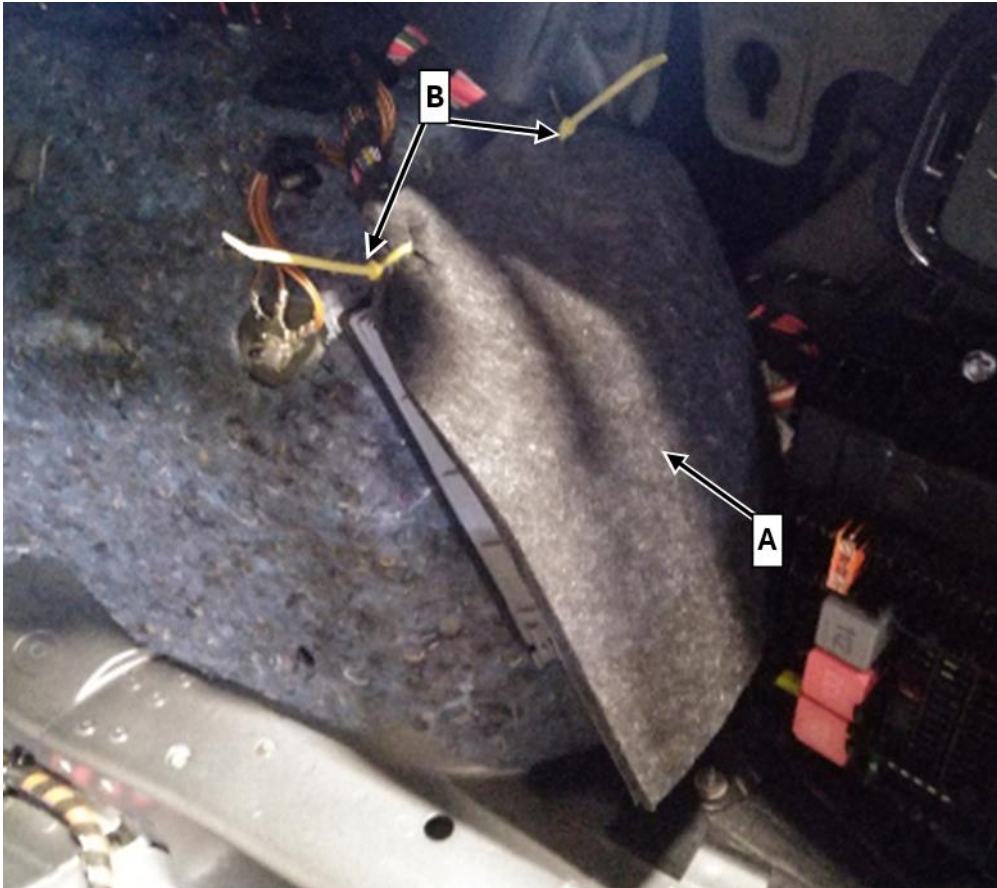

Figure 1
2. Retrofit felt (A, figure 1)
- i** To do this, dispose of the 2 clips from the new felt and attach two cable ties (B, figure 1) to both electric lines.